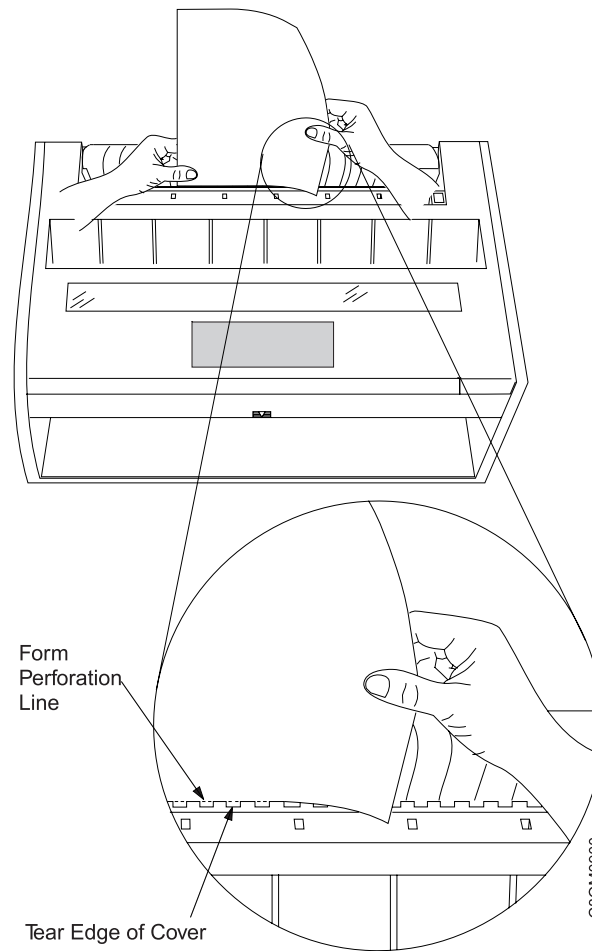

Figure 6. Tear-Off Position
7. Figure 6 shows the correct position of the perforation for a clean tear-off.